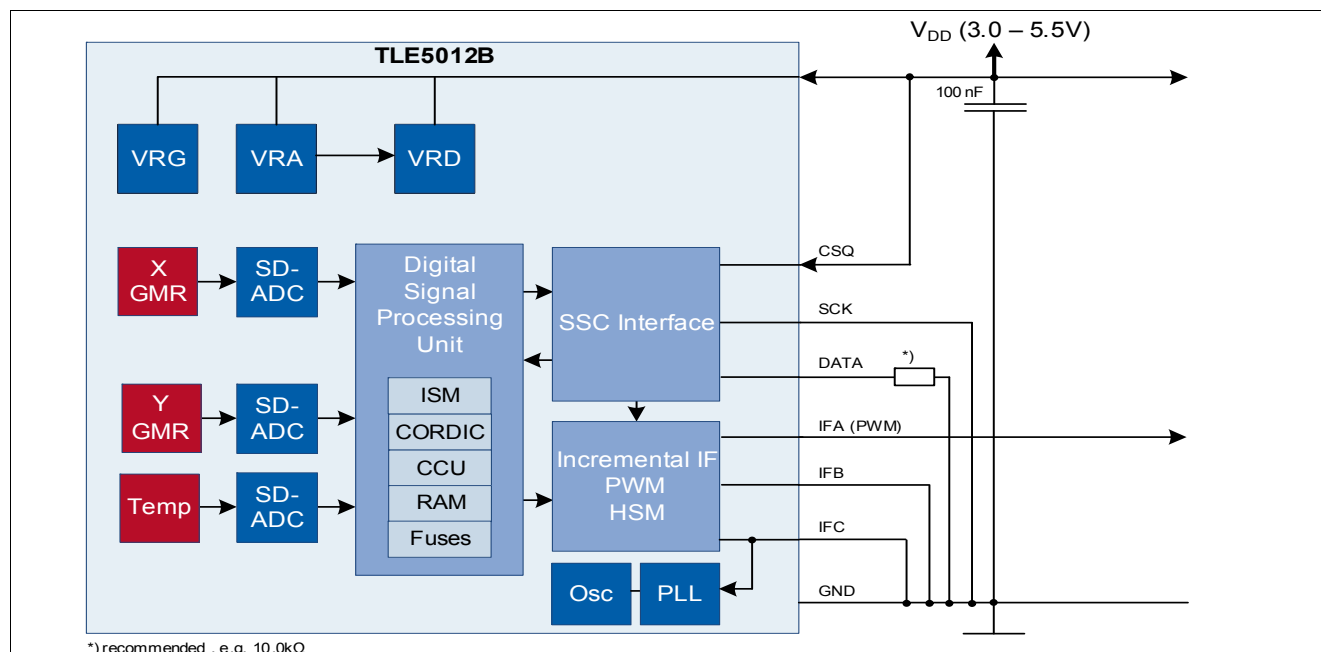

**Figure 3-2 Application circuit for TLE5012B with HS Mode and SSC (using internal CLK)**
**Figure 3-2** shows a basic block diagram of the TLE5012B with HS Mode and SSC configuration. The derivate TLE5012B - E3005 is by default configured with push-pull IFA (HS1), IFB (HS2) and IFC (HS3) pins.
In **Figure 3-1** and **Figure 3-2** the SSC interface has the default push-pull configuration (see details in **Figure 3-6**). Series resistors on the DATA, SCK (serial clock signal) and CSQ (chip select) lines are recommended to limit the current in the erroneous case that either the sensor pushes high and the microcontroller pulls low at the same time or vice versa. The resistors in the SCK and CSQ lines are only necessary in case of disturbances or noise.